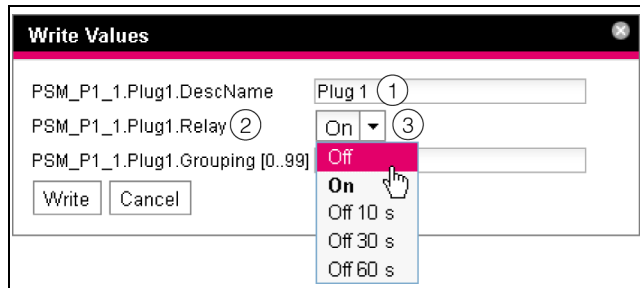

Fig. 18: Performing switch commands
| DescName | The specific description that was assigned to the output or the socket (fig. 18, item 1). |
| Command | The command to be performed. The following commands are supported: "Off", "On", "Off 10 s", "Off 30 s", "Off 60 s" (fig. 18, item 3). |
| Device | The device index (ID number) that is prefixed to the associated Real Device in the navigation area of the IoT interface website (fig. 18, item 2). |
| Command | The command to be performed. The following commands are supported: "Off", "On", "Off 10 s", "Off 30 s", "Off 60 s" (fig 18, item 3). |